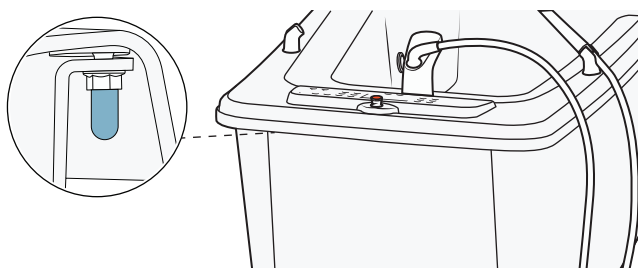

Figure 144
15. Attach the eight silicone caps on the screws under the rim. See Figure 144.